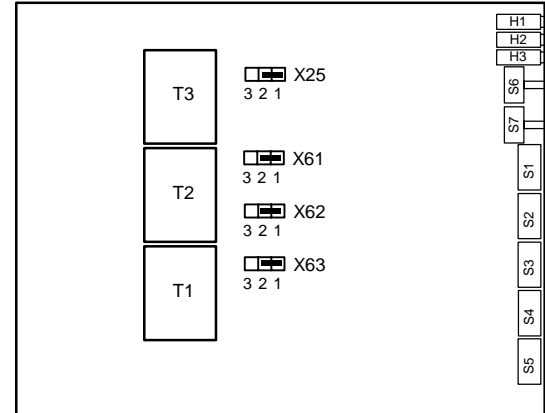

Figure 2-6 Jumper location on the module
Some basic settings of the device can be modified by means of jumpers on the basic module (see Figure 2-6).
Table 2-4 Jumper settings for changing the relay function (Figure 2-6)
- Re-locate short-circuit jumpers X25, X61, X62, X63. Figure 2-6 illustrates the jumper location on the module.